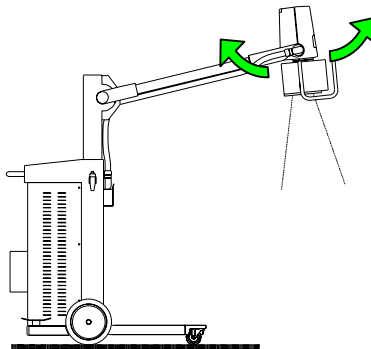

Figure 10
- Position the monobloc-collimator assembly over the relevant area of the patient (see Figure 10 - Figure 11).